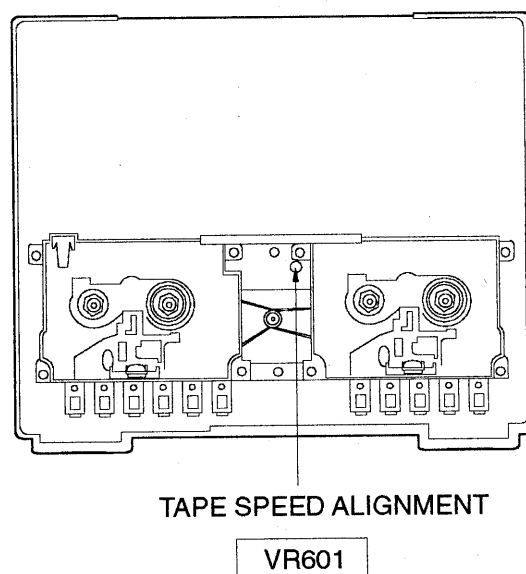

Fig. 3
4. Adjust VR601 for the output value shown in figure 3.